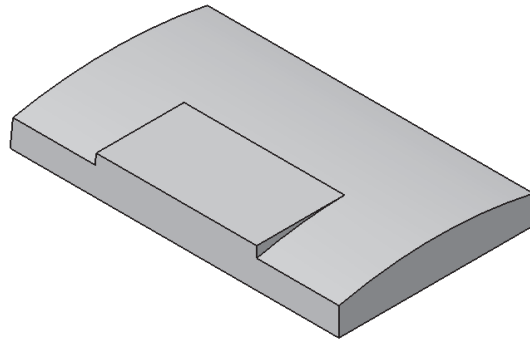

Figure 6-93 The model after drafting all the vertical faces
- c. Add the draft feature to all faces of the model except the upper and lower faces, refer to Figure 6-93.
4. Set the value of the **Angle** spinner to **3** and choose the **OK** button from the **Draft Definition** dialog box. The model, after creating the draft feature, is shown in Figure 6-93.